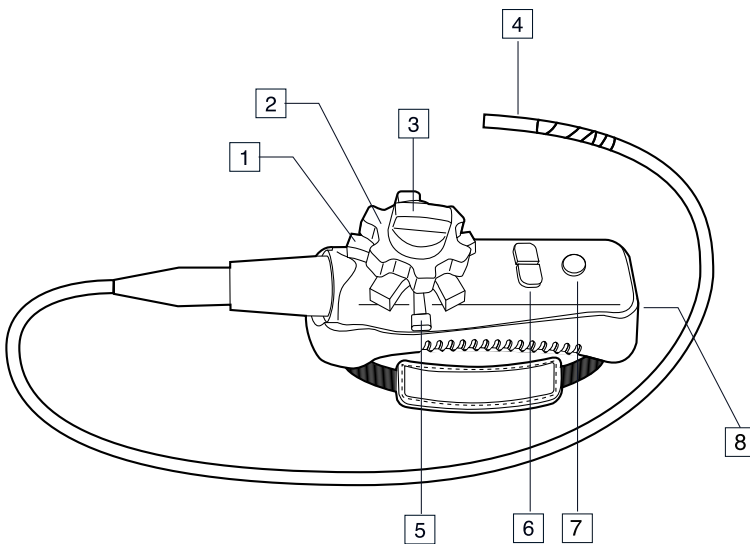
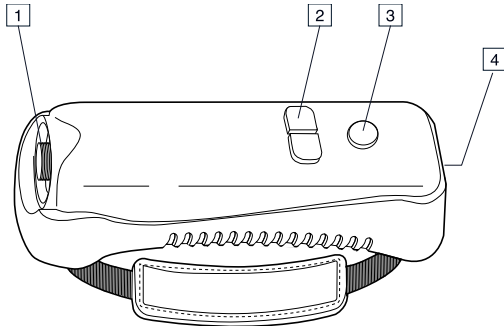

Figure 4.4 Articulating probe
Figure 4.5 Wireless transmitter
1. In wireless mode, use the light intensity buttons on the articulating probe (see Figure 4.4 *Articulating probe*, page 8) or wireless transmitter (see Figure 4.5 *Wireless transmitter*, page 9) to increase/decrease the light intensity.
Turn the articulation knobs to adjust the camera tip. The tension of an articulation knob is adjusted by turning the corresponding tension knob. Refer to Figure 4.4 *Articulating probe*, page 8.
Do not operate the articulation knobs (see Figure 4.4 *Articulating probe*, page 8) with the probe in a coiled configuration. This will damage the articulation controls.